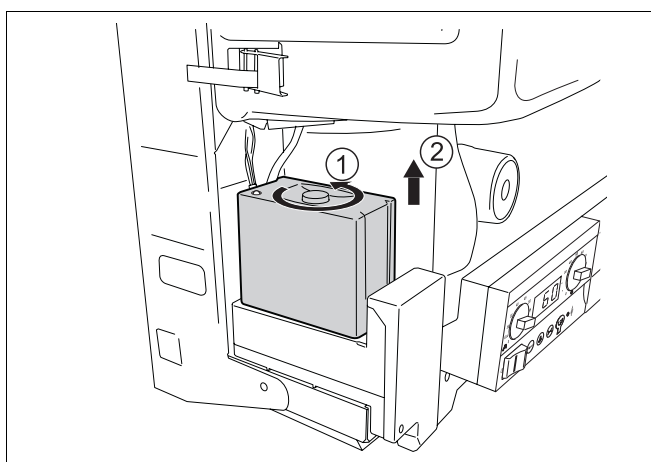
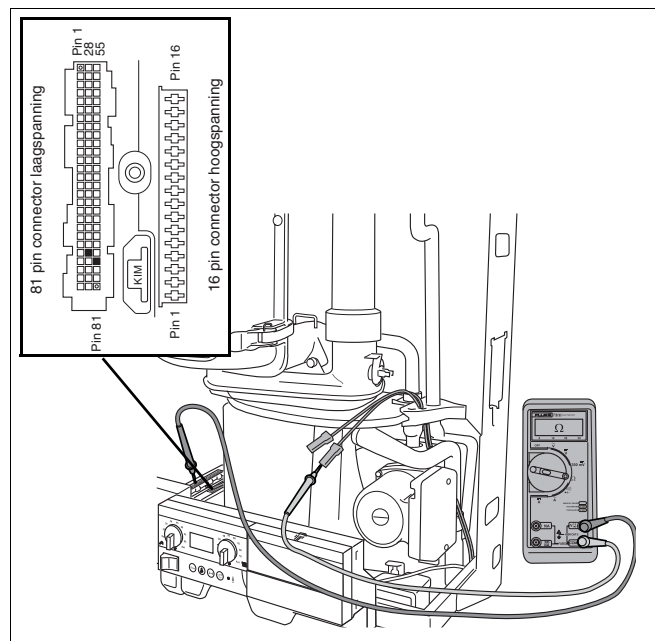

fig. 60 Remove UBA 3
fig. 61 Measure cable resistance
- Remove the UBA 3 (see fig. 60) to test the cable's resistance (see fig. 61).